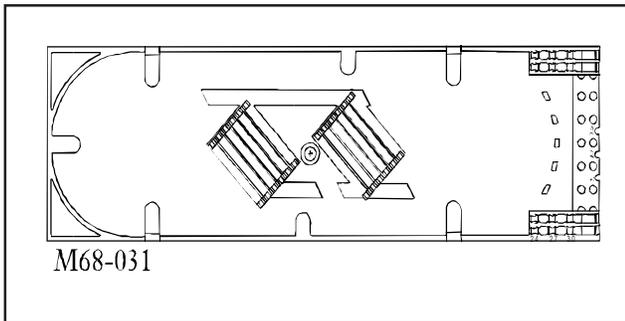

Figure 1
**1.1** The M68-031 splice tray is designed to hold twelve single-fiber mechanical splices. The splices are held in two specially designed splice holders. The tray holds both multimode fibers and single mode fibers, operating up to 1550 nm wavelength (Figure 1).